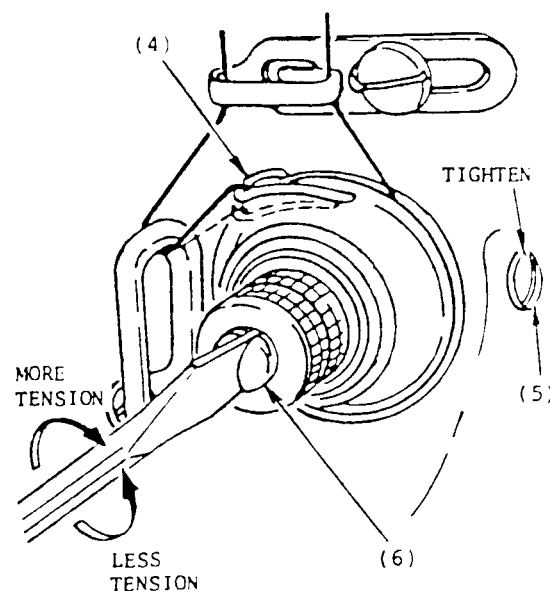

Fig. 4
Thread the machine. Securely tighten set screw (5), Fig. 4. Make certain thumb nut is on stud (6), Fig. 4.
Tension on check spring (4), Fig. 4, should be sufficient to ensure action at top speed; but still light enough to permit it-self to be drawn all the way down (as take-up lever approaches height of stroke) before any thread is drawn through the tension discs.